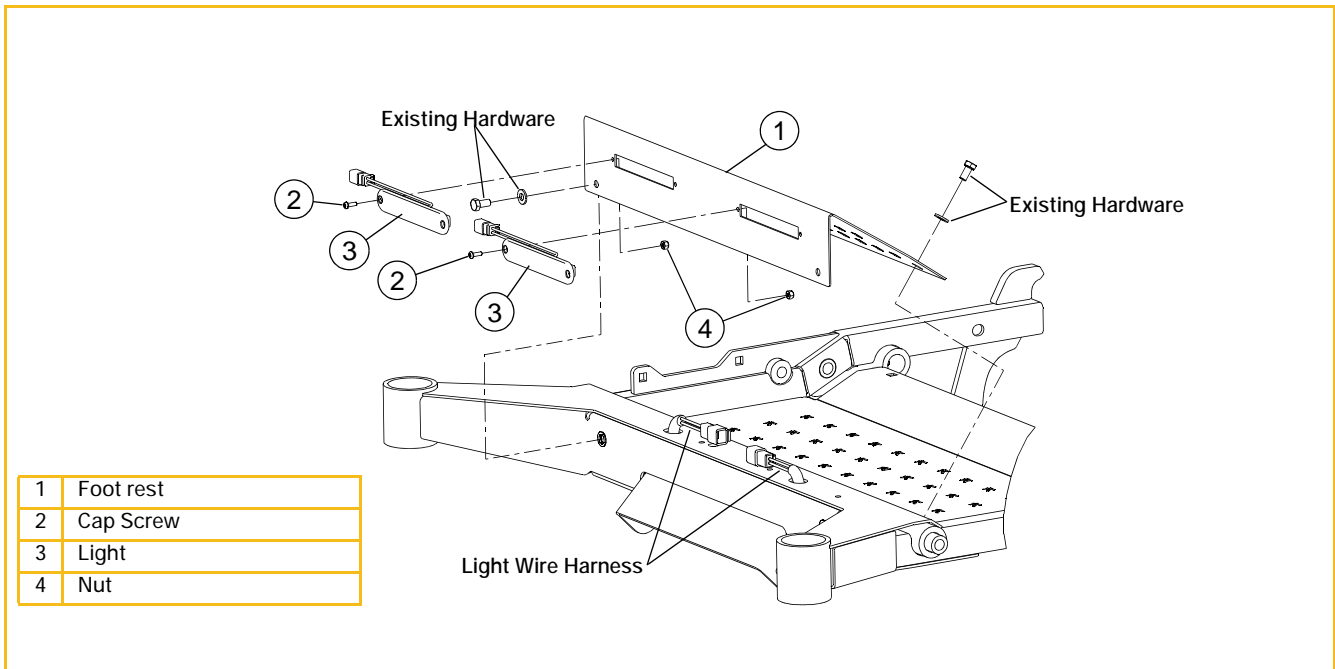

FIG. 1
3. Insert the headlights into the new foot rest and secure with the provided hardware. FIG. 1
4. Insert the two wire harness leads up through the mower frame from below. Connect the lights to the wire harness. FIG. 1
7. Attach the new foot rest using existing hardware. FIG. 1